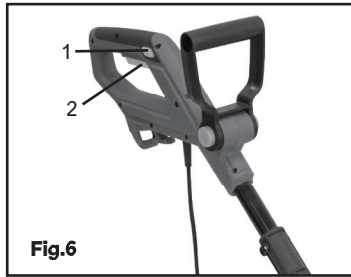

Fig.6
1. Press the lock-off switch (1) (Fig.6).
2. While continuing to press the lock-off switch, squeeze the on/off trigger switch (2).